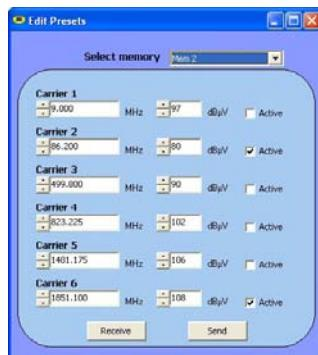

Figure 12.- PRESETS Edition.
**Presets:** It allows you to set the parameters of the six pilot signals (See Figure 12.-) and to save them grouped in one of the 8 memories of the instrument.